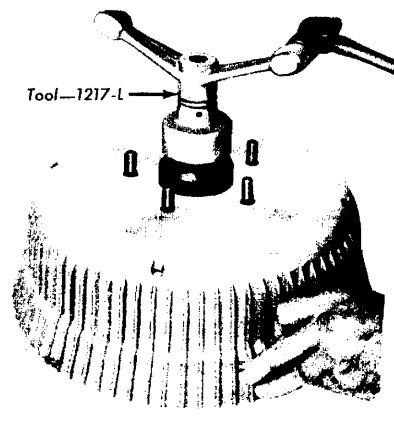

FIG. 7—Front Wheel Bearing Cup Removal
6. Clean the lubricant off the inner and outer bearing cups with solvent and inspect the cups for scratches, pits, excessive wear, and other damage. If the cups are worn or damaged, remove them with the tools shown in Fig. 7.